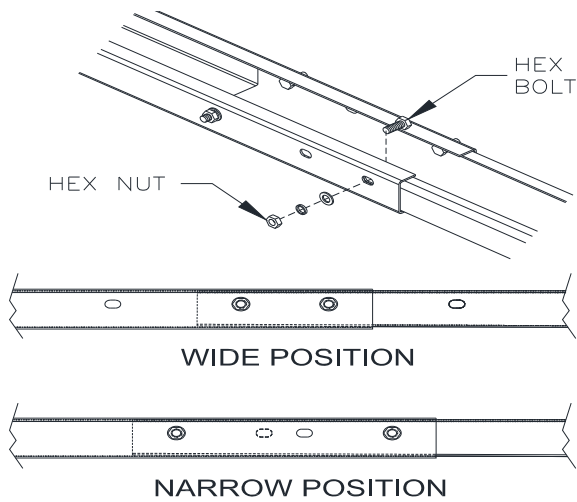

Fig 6 – Overhead
- 13) Assemble two Overhead pieces using (6 sets) M10 x 20 bolt, nut, flat washer, and lock washer as shown in **Fig 6**. Hand-tighten bolts to allow adjustment if needed. Use Base Width (D) Dimension to determine proper holes to use.